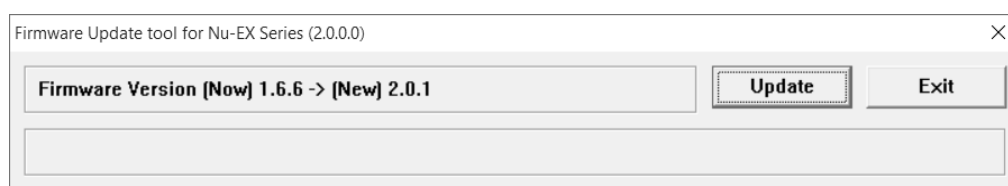

Figure 1.5.4 Startup Window of Firmware Update Tool
3. The dialog shown in Figure 1.5.4 appears. Click <Update>. Click <Exit> to exit the update tool without updating the firmware.